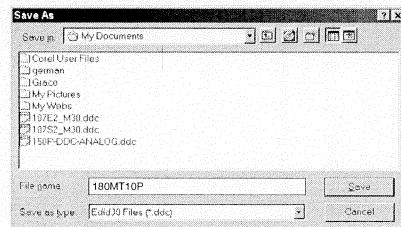

Fig. 26
1. Click (Save) icon (or click "file-> save as") from the tool bar and give a file name as shown in Fig. 26.